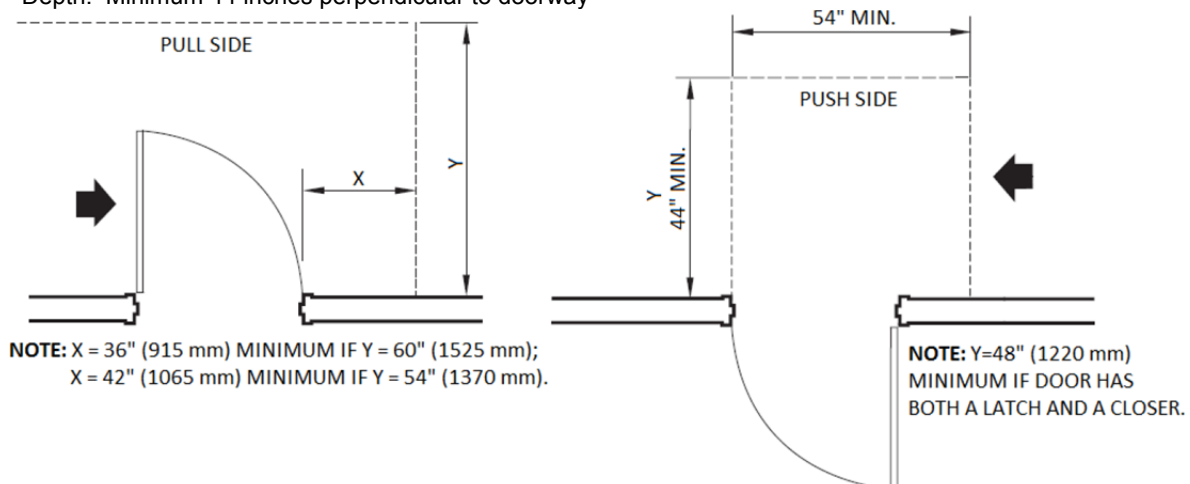

FIGURE 11A-8B
9. Dimension clear and level landings per CBC Figure 11A-8C for each hinged door allowing latch-side approach: